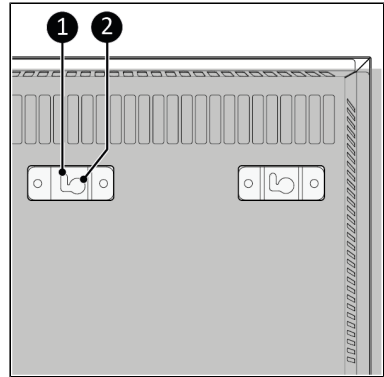

Figure 30.
14. Place the bracket holes (Figure 30, pos. 2) over the wall screws.
15. Slide the device to the left and let the device drop into the opening of the brackets (Figure 30, pos. 1).